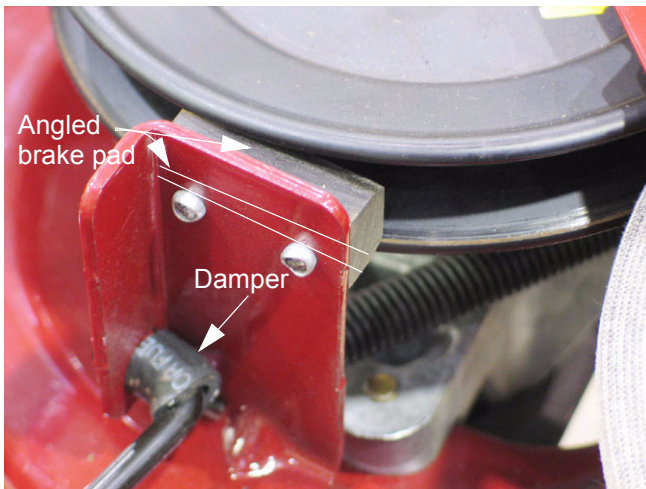

Figure 3.3
- 3.3. The re-configured brake rod now uses a short bit of 5/16" fuel line as a damper. See Figure 3.3.